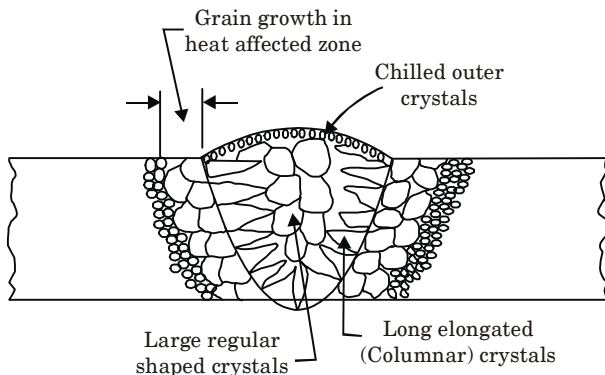

Fig. 3.14.1. Micro and macro structure of weld metal.
- Fig. 3.14.1 shows the structure of a weld section.